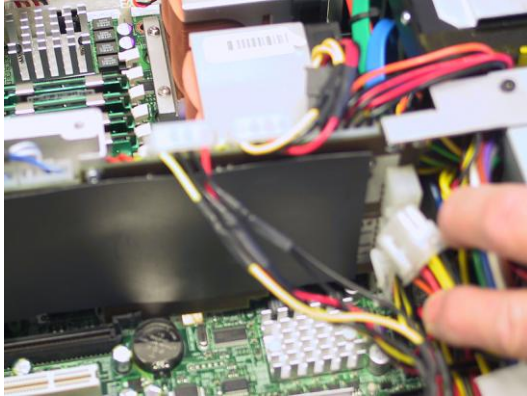

Figure 5-49
- 2) Unplug the top power input connector from the power distribution board (Figure 5-49).